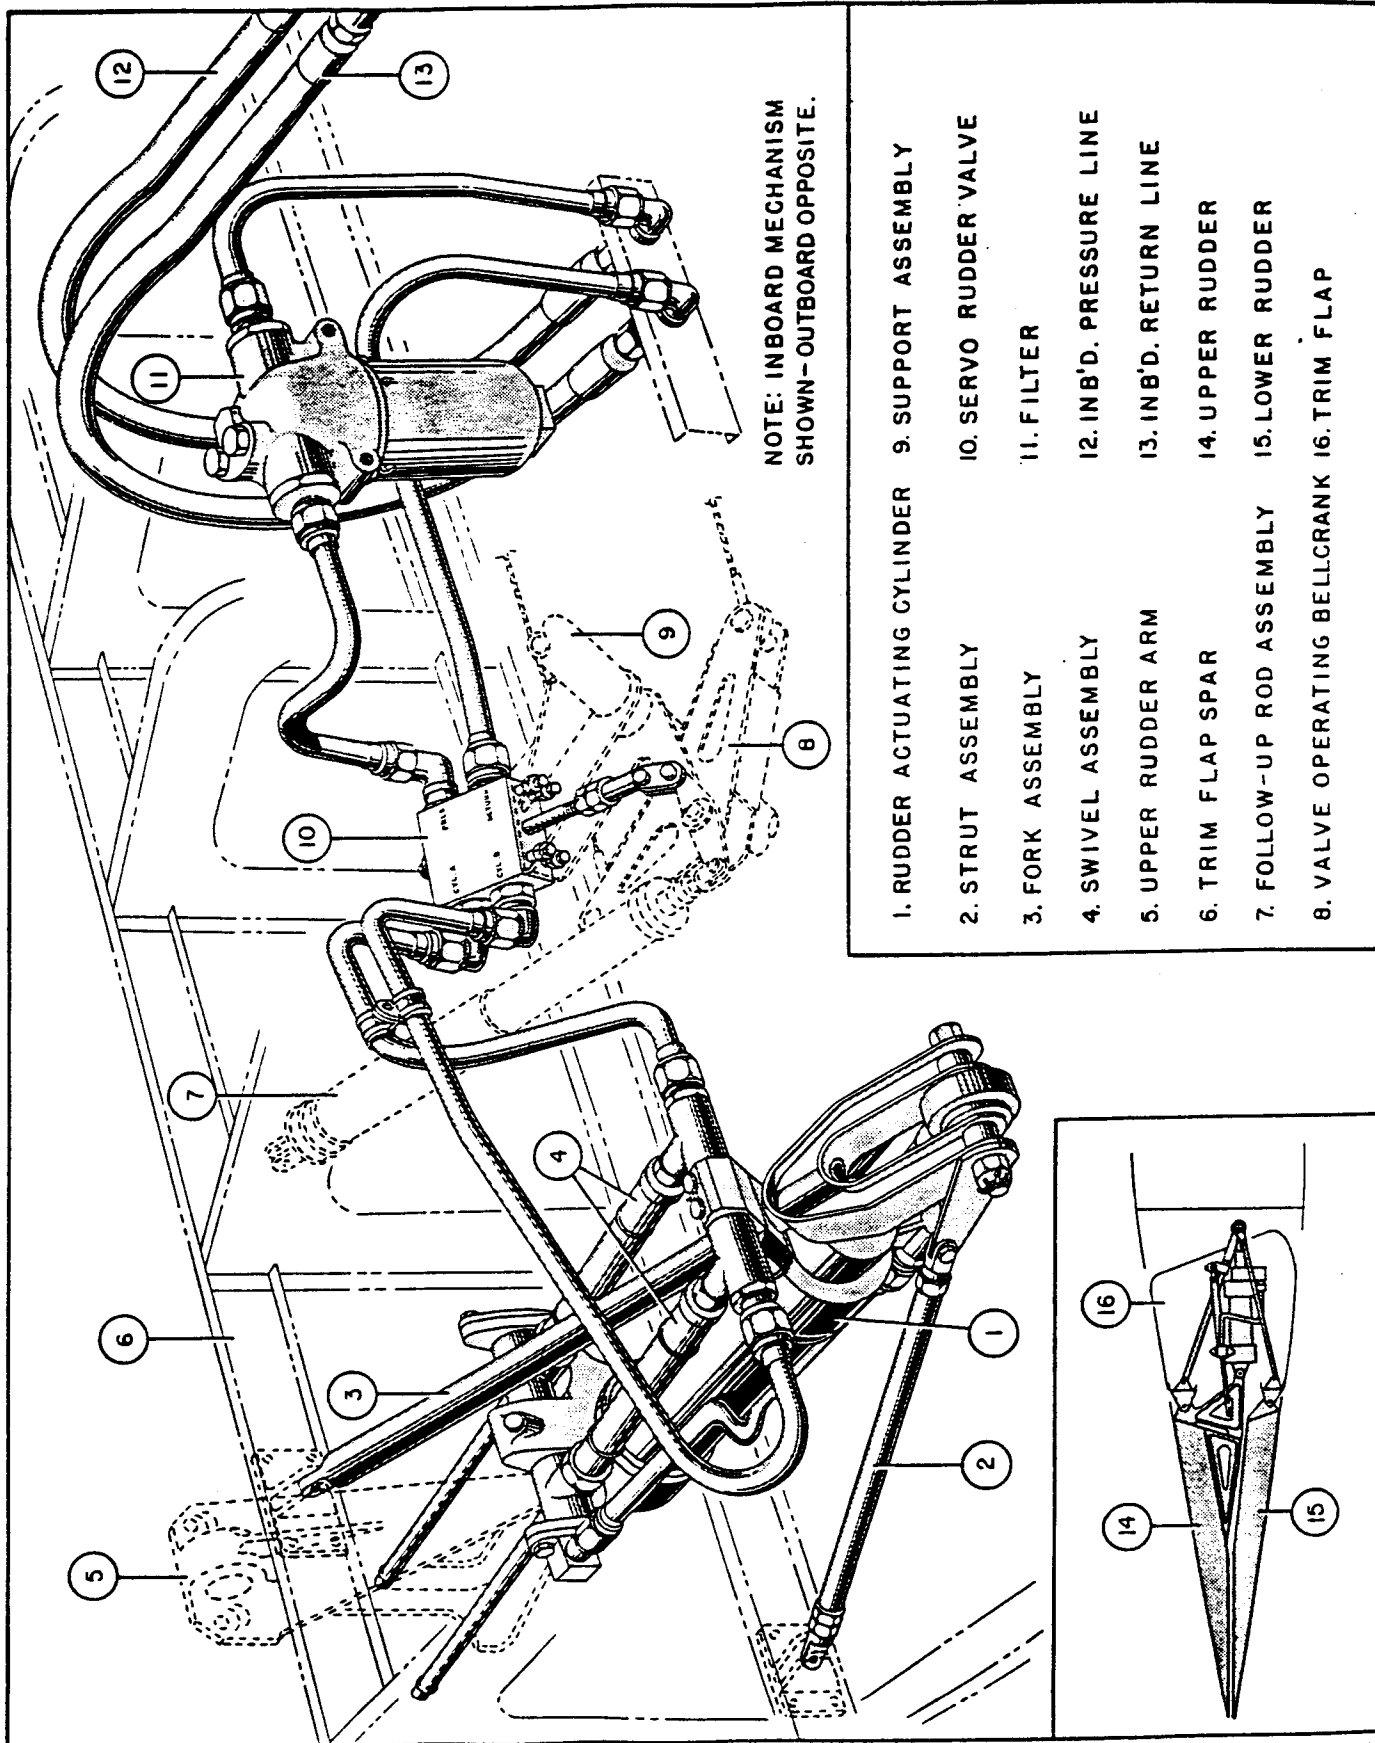

Figure 25. Rudder Actuating Mechanism
1. The rudder actuating cylinders are located aft of the main spar of the trim flaps. One cylinder is mounted at each end of each rudder. Each cylinder is mounted in brackets, one bracket attached to the trim flap spar, the other to the rudder. See figure 25.
(f) INSTALLATION. (See figures 25 through 27.)- Install the cylinder and attaching bolts. Connect the hydraulic lines and bleed the system.
1. DESCRIPTION. (See figures 25 and 28.)- A rudder servo valve is installed near each of the rudder actuating cylinders. The valve is activated by pressure on the rudder control pedals which in turn directs pressure to actuate the rudder cylinders.
2. REMOVAL. (See figure 25.)
4. INSTALLATION. (See figure 25.)